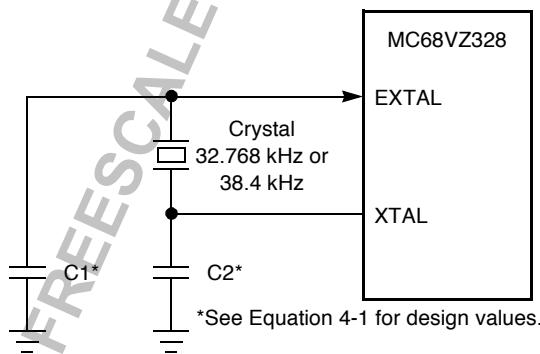

Figure 4-2. Example of External Crystal Connection
Figure 4-2 represents a suggestion of how a crystal may be connected to the MC68VZ328. The values of C1 and C2 in Figure 4-2 are determined by using the crystal load capacitance (CL), PCB stray capacitance, Cstray (measured or approximated), and DragonBall input capacitance ($C_{dbvz} \ll 1.0\text{ pf}$) according to the following formula: